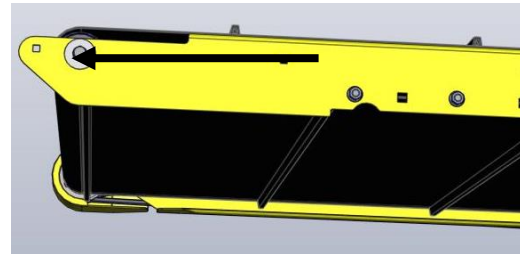

Figure 90
7. On the front side remove the retaining bolt the holds the roller in place. Figure 90 That will allow you to remove the roller. This figure shows Model Year 2015 and above. Model Year 2014 and below is slightly different.